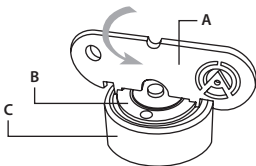

FIGURE 3-2. REMOVING OF THE BATTERY INSERT
2. Using the ARMASIGHT key (A, Figure 3-2), remove the battery cap insert (B, Figure 3-2) from the battery cap (C, Figure 3-2).